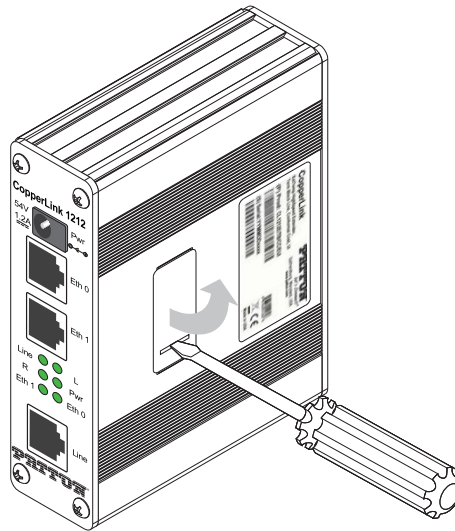

Figure 15. Removing protective cover
1. Using a small flat-tip screwdriver, remove the protective cover located on the right side panel of the CL1200E (see figure 15).